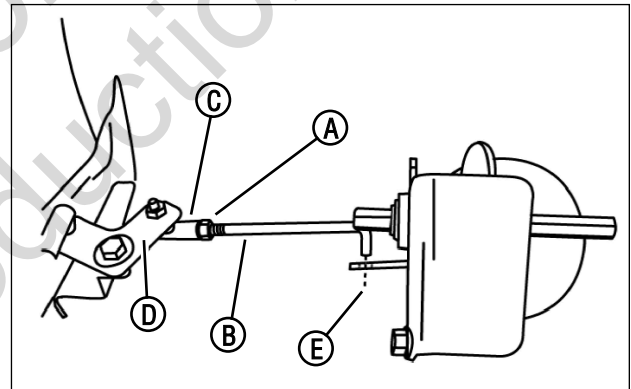

Figure 29: Adjusting the transfer rod
4. Loosen the jam nut (A, Figure 29) securing the transfer rod (B) to the ball joint (C) on the pivot bracket (D).
5. Turn the rod in or out of the ball joint until the end of the rod aligns with the hole (E) in the driven disc assembly from which the rod was removed.